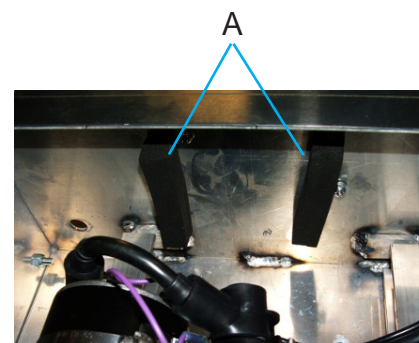

Figure 1
- 8) Mount two adhesive backed foam strips (A) to the underside of the enclosure shelf, oriented front-back on the enclosure (Figure 1). Press firmly to secure into place.